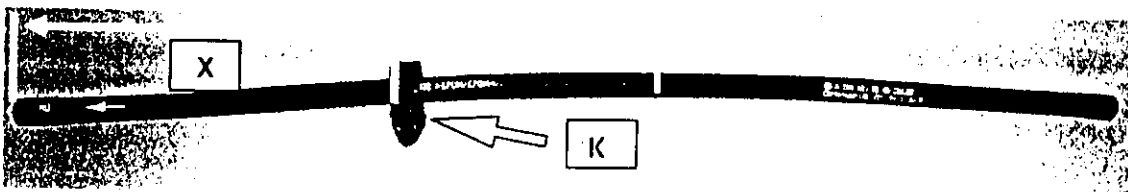

Figure 2: New suction hose
3. Prior to installing the new suction hose, check dimension X and adjust if necessary; move the "K" attachment clip to do this (see Figure 2). Dimension X must measure exactly 20 cm.